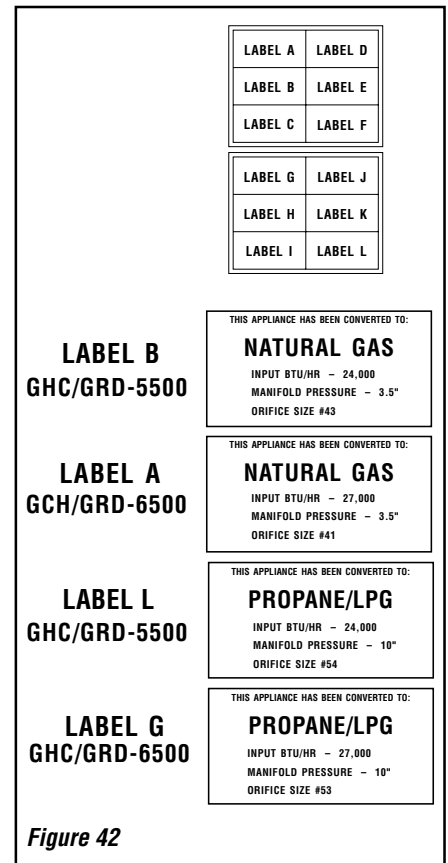

Figure 42
Step 9. Attach conversion kit label to the rating plate on the appliance as shown in the **Figure 42**.